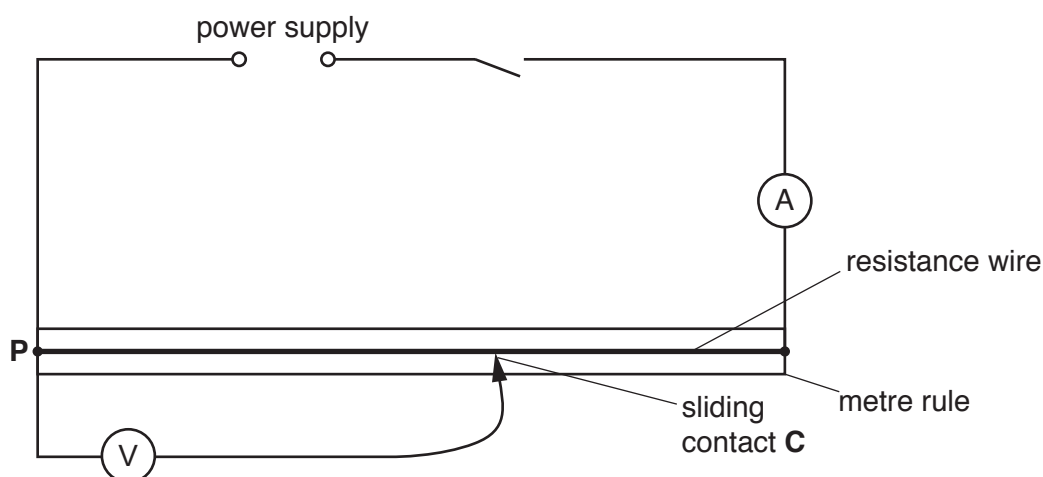

Fig. 2.1
- (vii) Two suitable terminals (e.g. crocodile clips) attached to the constantan wire at the ends of the metre rule so that connections can be made to the circuit shown in Fig. 2.1.
- (ix) Sufficient connecting leads to set up the circuit shown in Fig. 2.1.
1. The circuit is to be set up for the candidates as shown in Fig. 2.1.
Check that the circuit is arranged as shown in Fig. 2.1.